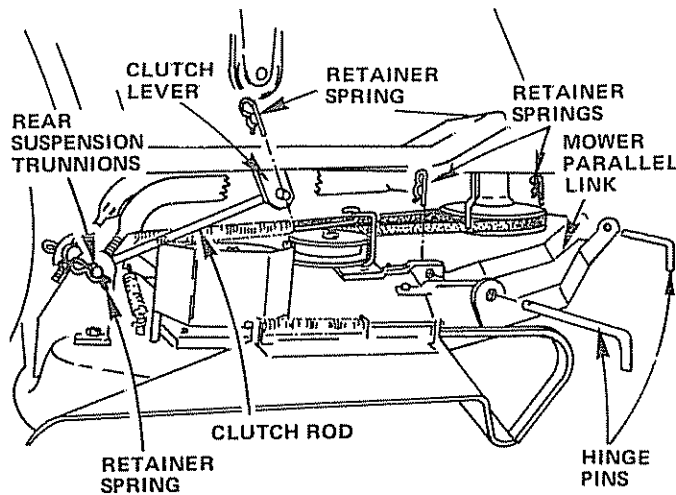

FIGURE 31
4. Pull Retainer Springs out of Rear Suspension Trunnions. Remove Rear Suspension Trunnions from Lift Brackets (Fig. 31).
5. Pull Retainer Spring out of Rear Hinge Pin. Remove Rear Hinge Pin (Fig. 31).
6. Pull Retainer Spring out of Front Hinge Pin. Remove Front Hinge Pin (Fig. 31).